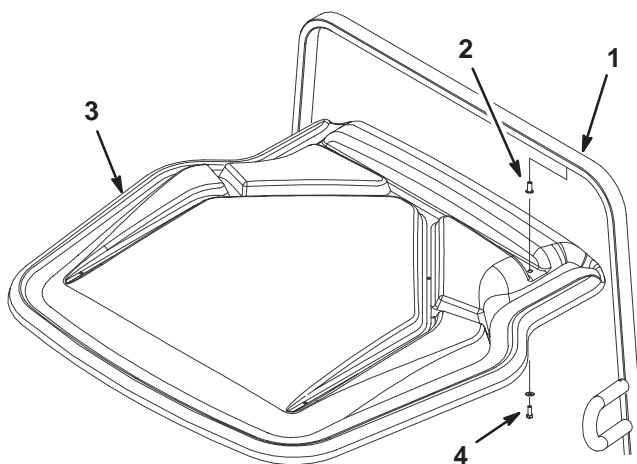
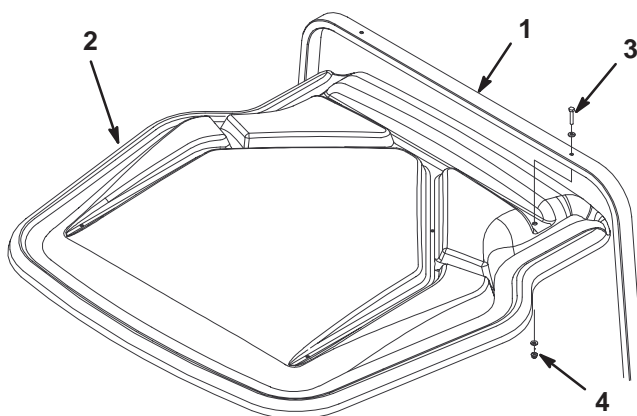

Figure 3
Figure 4
7. If your vehicle has a ROPS, insert the clinch nuts into the holes in the ROPS (Fig. 3). Lift the canopy and attach it to the ROPS with 2 screws (3/8 x 1 in.) and 2 flat washers (3/8 in.) (Fig. 3). If your vehicle does not have a ROPS, lift the canopy assembly and attach it to the rear support tube with 2 screws (5/16 x 2 in.), 4 washers (5/16 in.), and 2 flange nuts (5/16 in.) (Fig. 4).